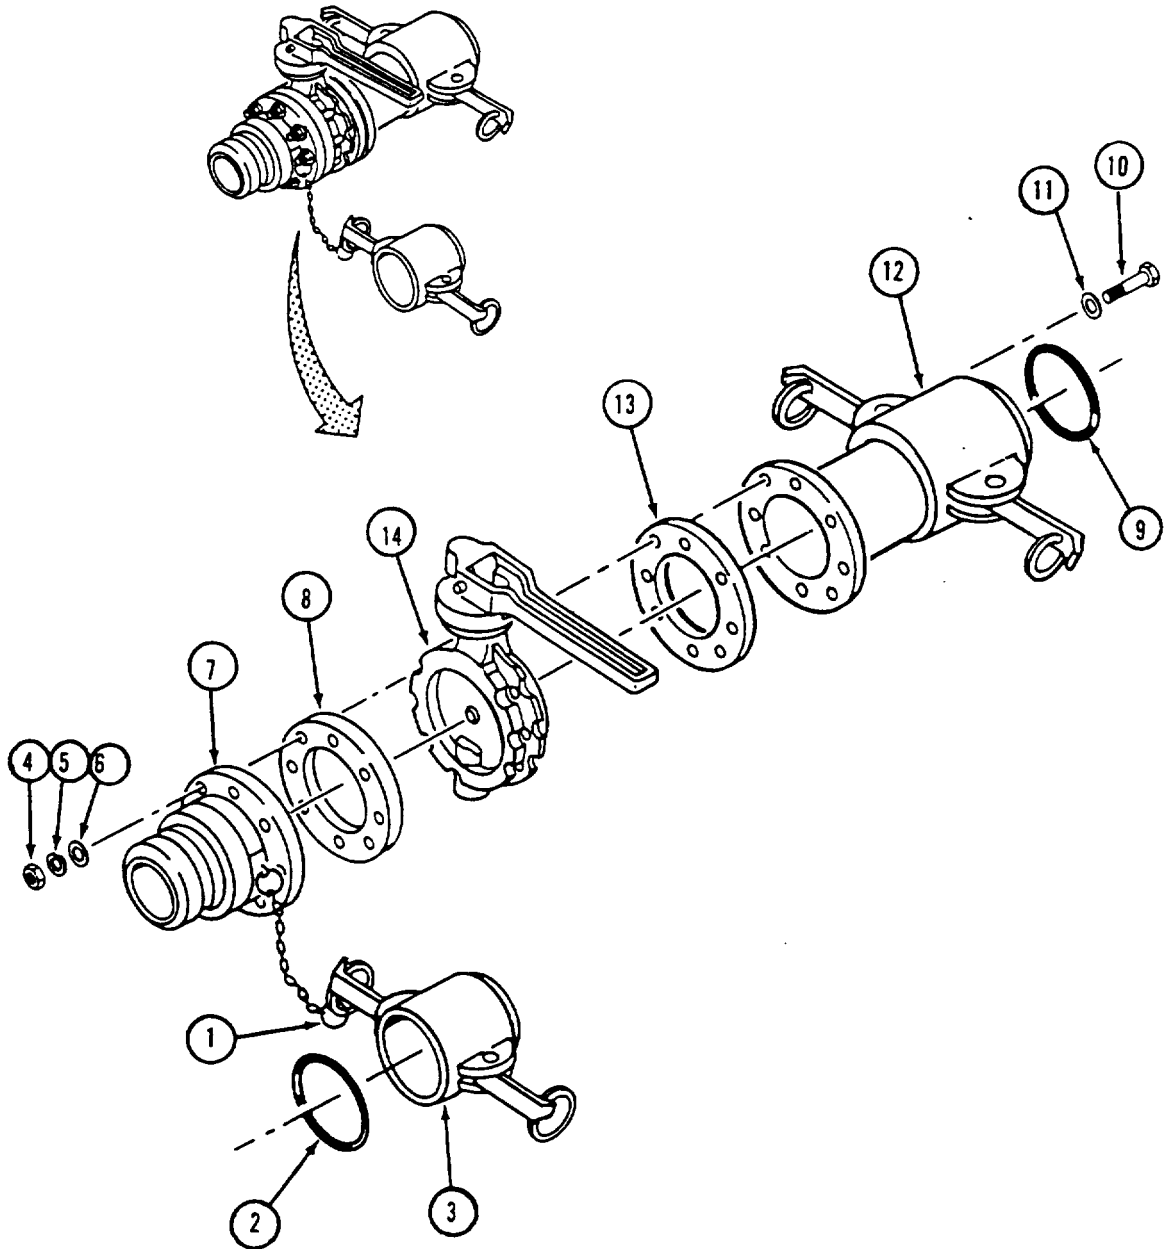

Figure 3-10.1 Butterfly Valve Disassembly
Butterfly valve removal. Refer refer to figure 3-10.1
- 1 Inspect male coupling (7, figure 3-10.1) female coupling (12) and cap (3) for cracks and corrosion.
Butterfly valve installation. Refer to figure 3-10.1